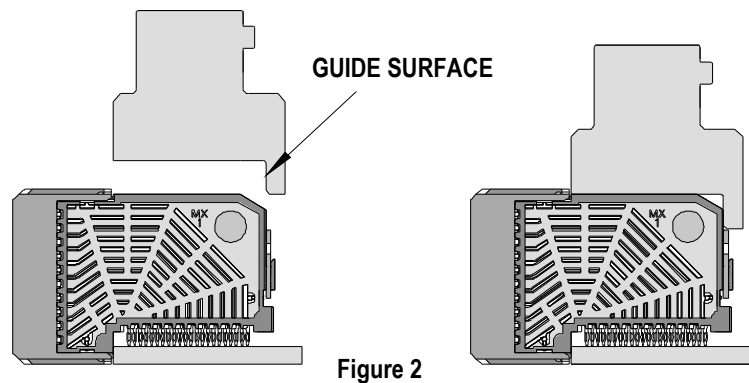

Figure 2
2. Place the application tool on top of the module with the back guide surface of the tool against the back of the Daughtercard module. See Figure 2.